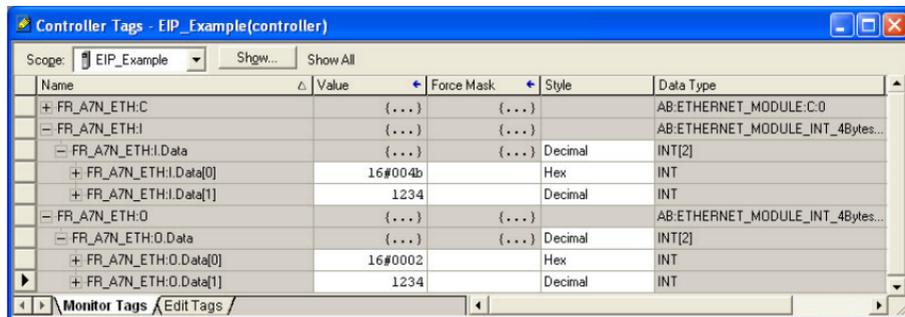

Figure 82: Controller Tags for I/O Access
- 8) By double-clicking "Controller Tags" in the project tree, it is possible to view the newly-added tags. Refer to Figure 82. The FR_A7N_ETH:C configuration tag is unused, the FR_A7N_ETH:I tag allows viewing of the input data, and the FR_A7N_ETH:O tag allows modification of the output data. These tags will be synchronized with the inverter at whatever rate was established for the module's RPI.
tags in order to control and monitor the inverter. In Figure 82, for example, we can see that the first 16-bit word of output data (FR_A7N_ETH:O.Data[0]) has been set to a hexadecimal value of 0x0002. Referring back to Figure 31, we can see that the first element of the consumed register configuration references register 9, which is the inverter's command register. A value of 0x0002, therefore, means that the run forward bit has been turned ON.